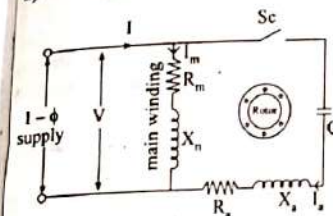

Fig. 1: Split-phase Induction motor
- Fig. 1 shows the connection of a capacitor-start motor.
- A centrifugal switch S_c is also connected as shown in Fig. 1.